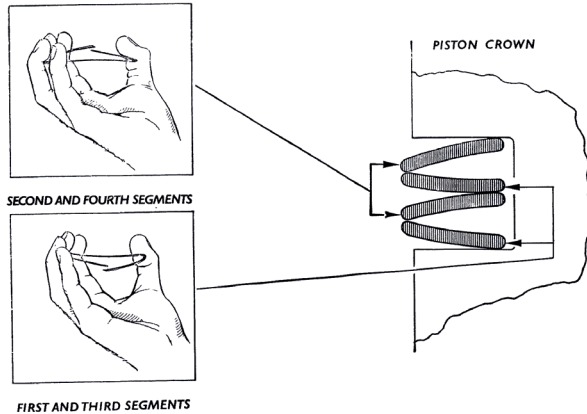

Fig. 2-30
4. The fourth ring is installed on top of the third so that, when you are pressing it together, the ring ends are pointing upwards. Position the gap in the ring directly above the gap in the second ring. See Fig 2-30.